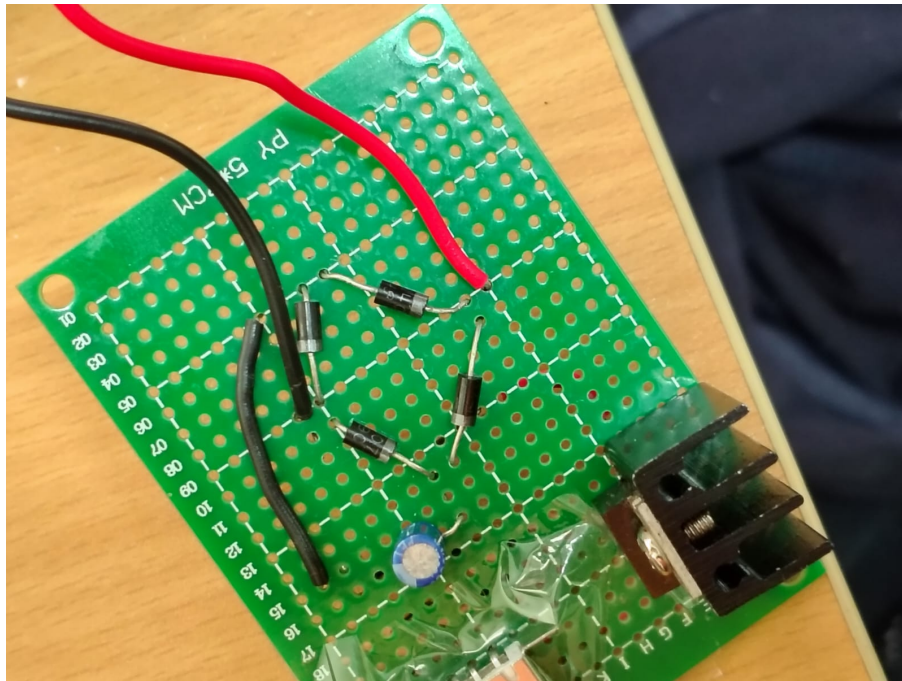

Figure 7: Circuit after connecting voltage regulator
0.8 Work Done (Figure: 7)
we connected the voltage regulator to the PCB as shown in Figure 7, Then firmly soldered the connections on the underside of the PCB.